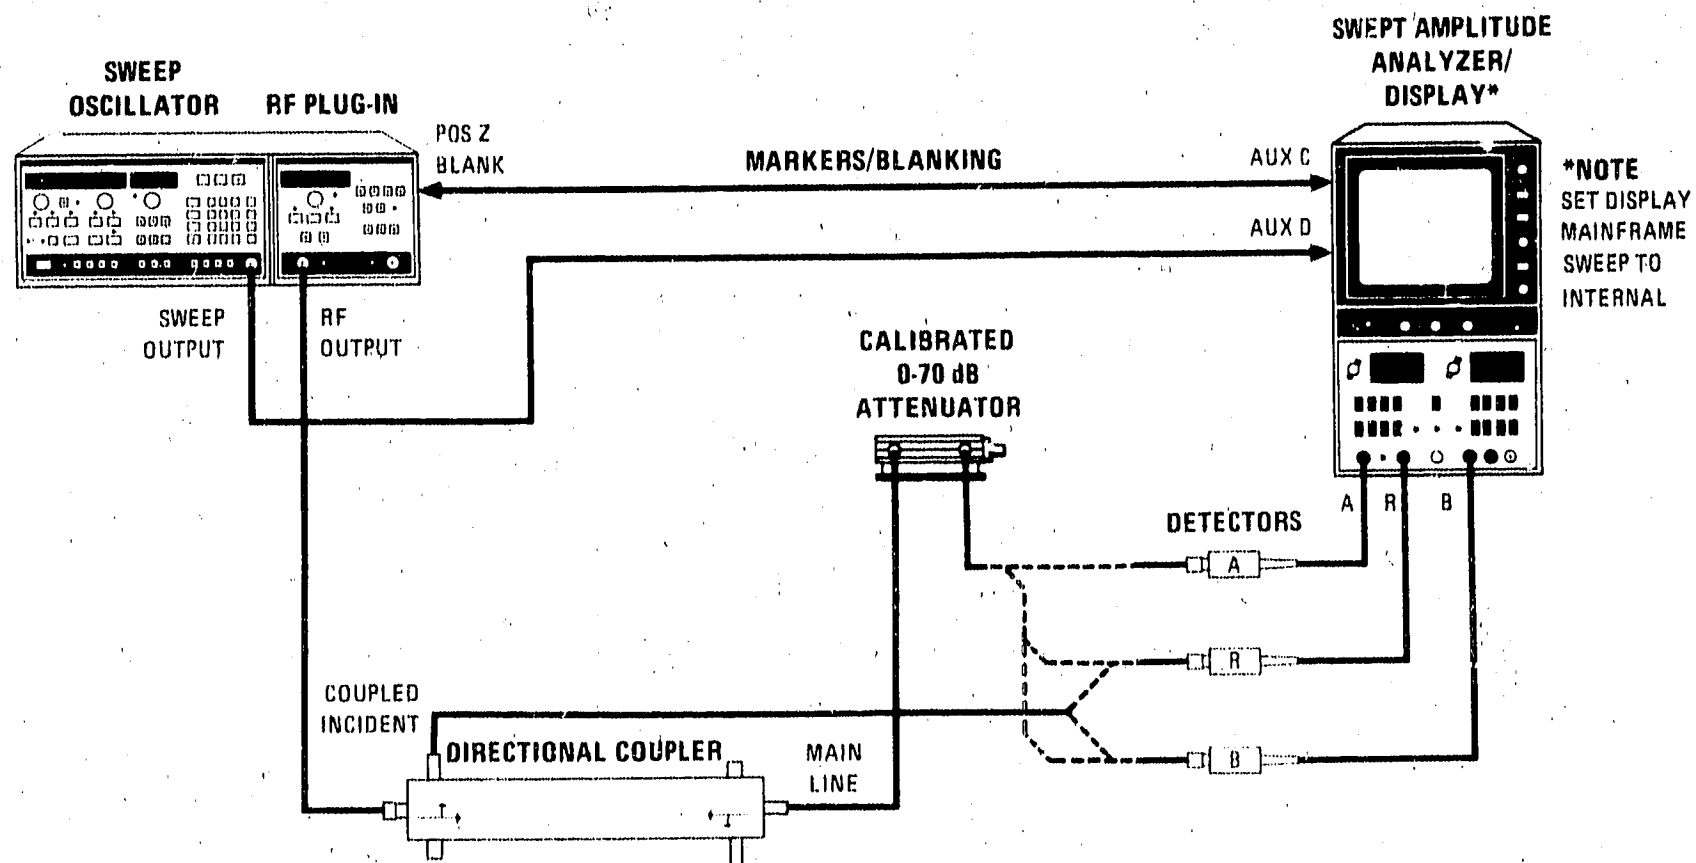

Figure 4-1. Amplitude Accuracy Test Setup
**DESCRIPTION:** The 8755C is connected as shown in Figure 4-1. An initial calibration of gain within the oscilloscope display is made. Then precision attenuators are used to vary the input level to the channel under test. With no attenuation, a reference level is set. Attenuators are then inserted in 10 dB steps and the resulting response is measured.
- a. Connect equipment as shown in Figure 4-1 with detector R connected to incident coupled port of directional coupler and detector A connected to 0-70 dB Step attenuator. Set 0-70 dB Step attenuator to zero dB.